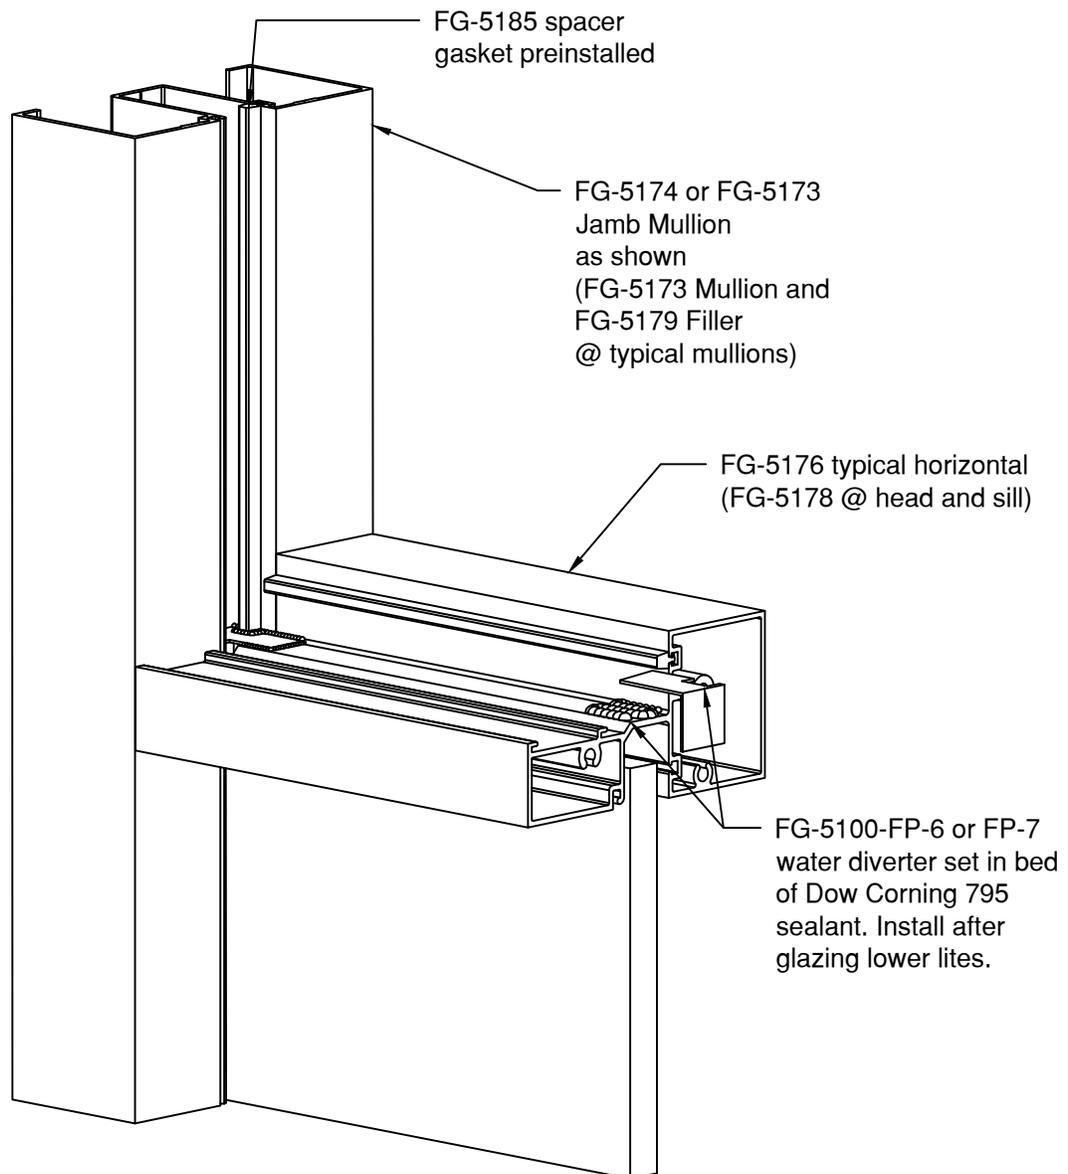

Figure 13
- 4W.1.2 Install water diverters see **Figure 13** after lower lite is in position.
- 4W.2.5 After gaskets are pressed in place. Pull gasket from pocket as shown in Figure 13 Page 16. Clean glass and gaskets a minimum of 2" from each end with isopropyl alcohol. Apply Dow Corning 795/995 sealant see Figure 14. Push gaskets into reglet, **See Figure 15 on Page 18.**